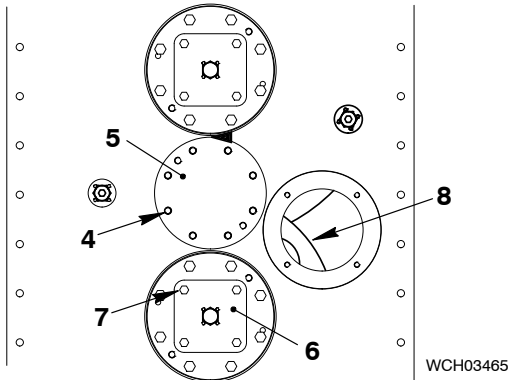

Fig. 12
- 1) Remove the eight screws (4, Fig. 12) and the cover (5).
Note: You can get access to the service hole (8, Fig. 12) in the engine.